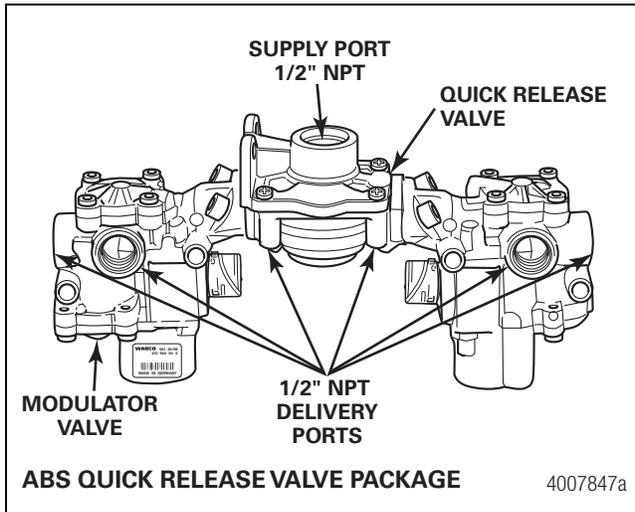
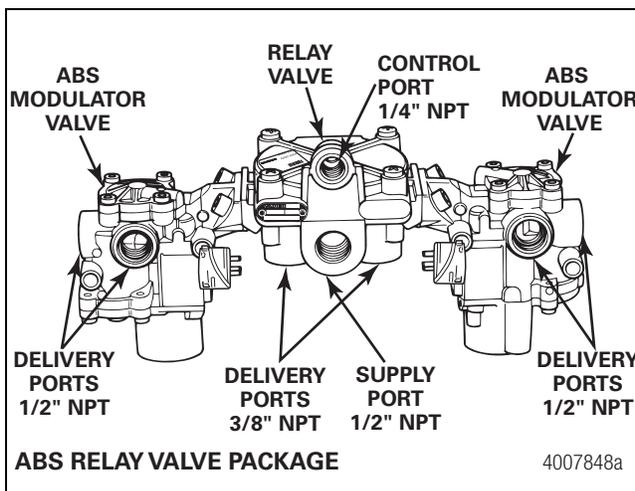

Figure 4.6
Figure 4.7
4. Remove all the air lines and connections from the ABS valve package. Figure 4.6 and Figure 4.7.